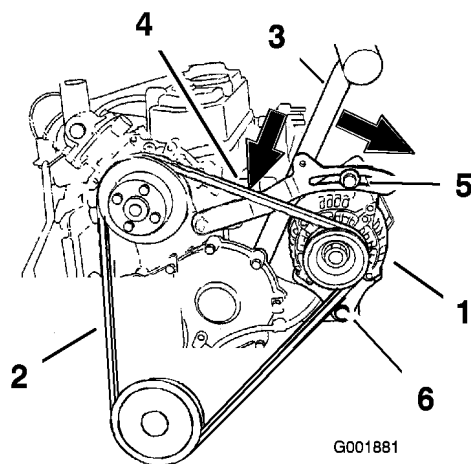

Figure 68
5. Loosen the two bolts holding the alternator (Figure 68).
6. Remove the belt from the pulleys and alternator (Figure 68).
7. Install a new belt around the pulleys and the alternator (Figure 68).
1. Place a handle between the alternator and cylinder block (Figure 68).
2. Adjust the alternator to the outside until there is 3/8 to 1/2 inch (10 to 13 mm) deflections in the belt between the engine and the alternator (Figure 68).
5. If the deflection is correct, torque the upper bolt to 170 in-lb (19 N•m) and the bottom bolt to 45 ft-lb (61 N•m) (Figure 68).